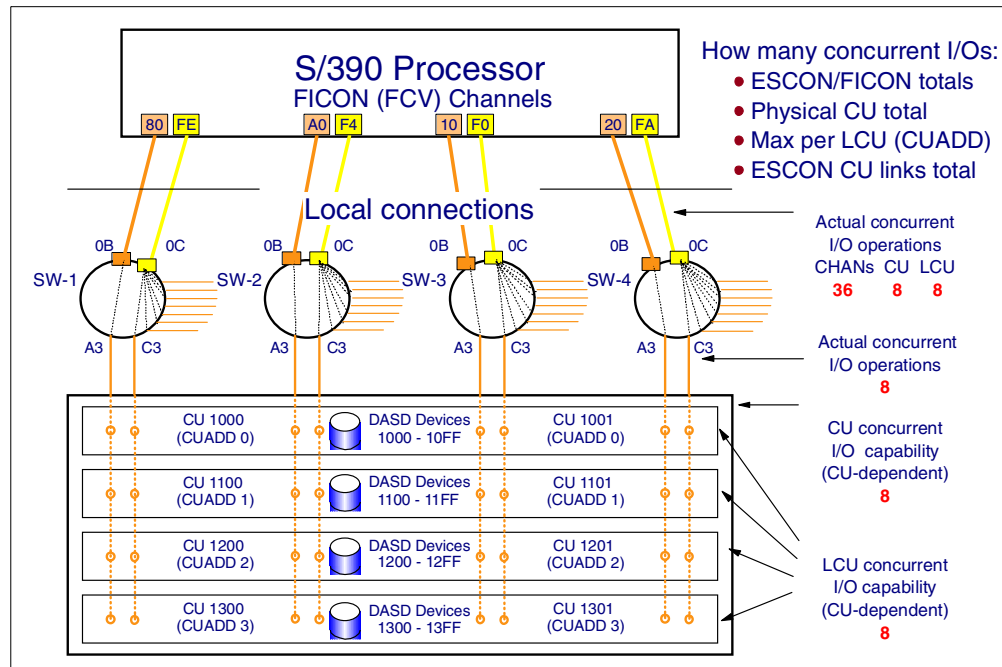

Figure 79. Intermixing ESCON (CNC) and FICON (FCV mode) channel paths
- Figure 79 on page 102 shows four ESCON channel paths and four FICON (FCV) channel paths from the same S/390 image to the same control unit images.
The actual I/O concurrency for the configuration shown in Figure 79 is:
- Up to 32 for the FICON (FCV mode) channel paths, but only four of the 32 will be for the control unit configuration shown in Figure 79.